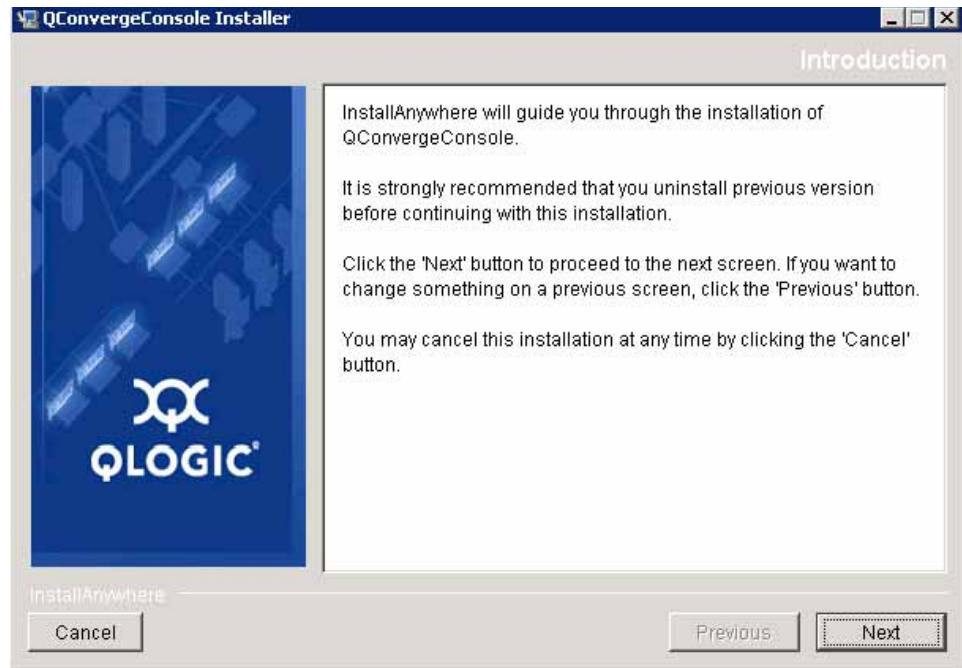

Figure 85 QConvergeConsole Installer Introduction window
1. The **QConvergeConsole Installer** window displays, as shown in Figure 85.